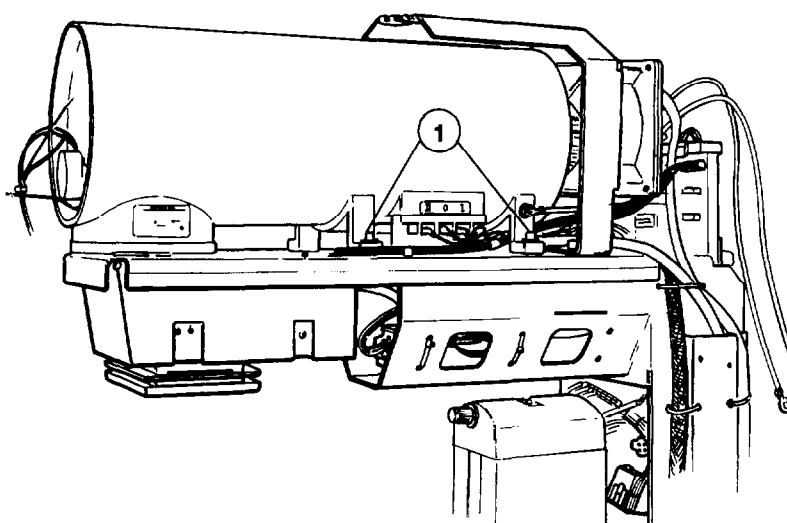

Fig. 2
- Check the mounting for the X-ray tube unit (1/Fig. 2).